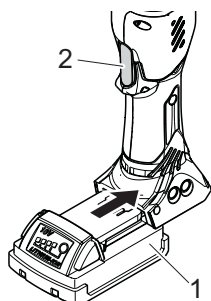

Fig. 6: Inserting the battery
3. Hold down the START button (Fig. 6/2) and reinsert battery (Fig. 6/1) at the same time. The status LEDs will flash red.